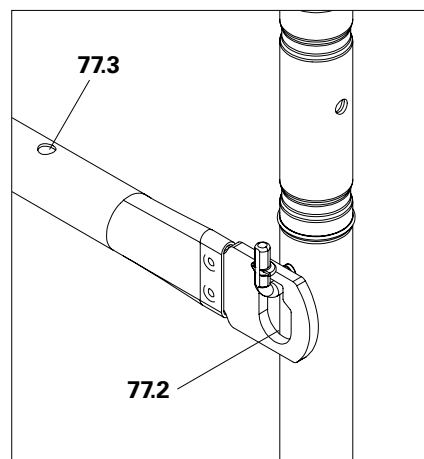

Fig. A3.01c
2. Attach the stair guardrail with key-hole (**77.2**) to the lower guardrail hook. (Fig. A3.01c)